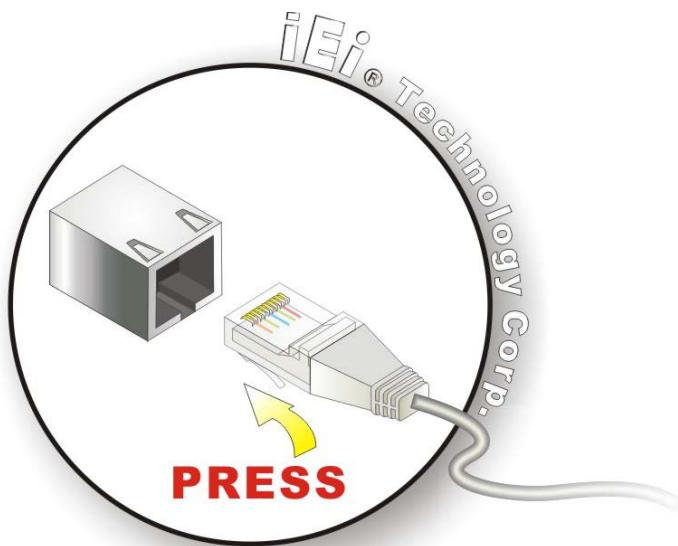

Figure 4-15: LAN Connection
Step 2: Align the connectors. Align the RJ-45 connector on the LAN cable with one of the RJ-45 connectors on the IMB-H612. See **Figure 4-15**.